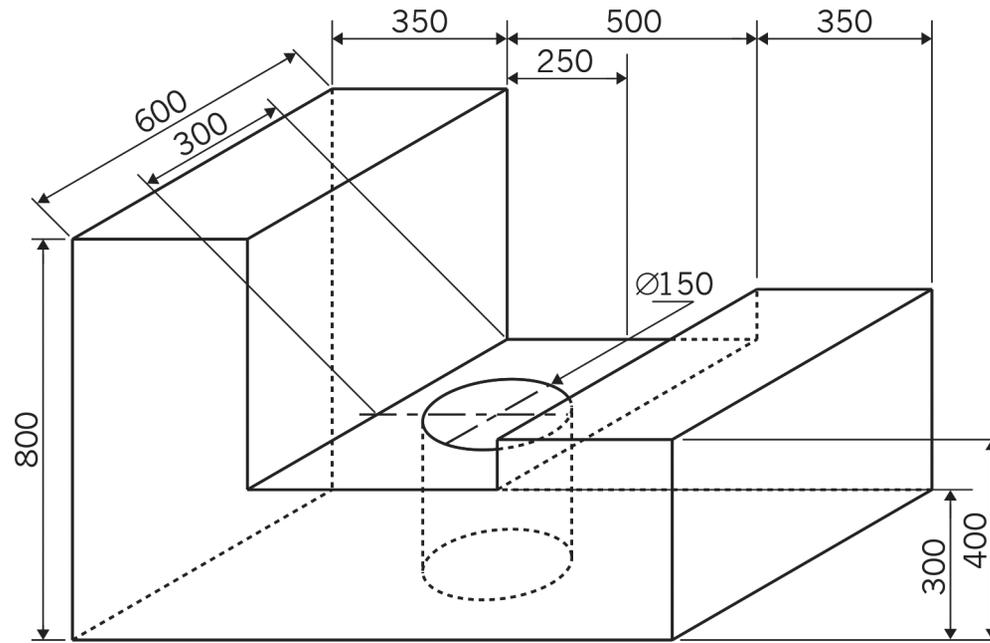

Figure 12
2. Make a 1:10 scale drawing of the front part of the object in Figure 12 below.